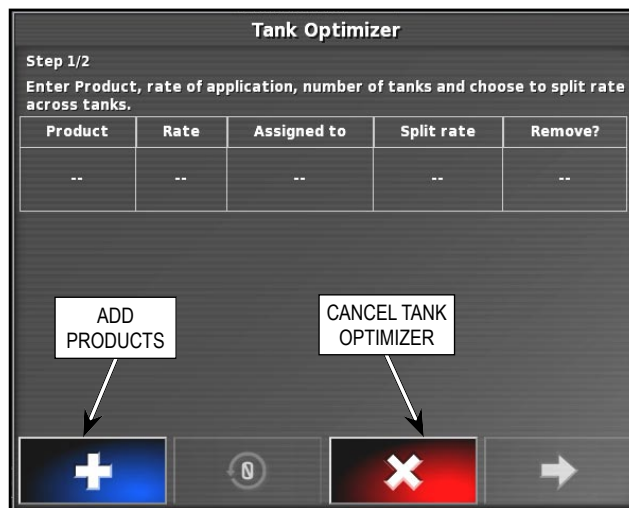

Figure 8.8 - Tank Optimizer Wizard
- Select Tank Optimizer. Tank Optimizer wizard will start up, refer to *Figure 8.8*.